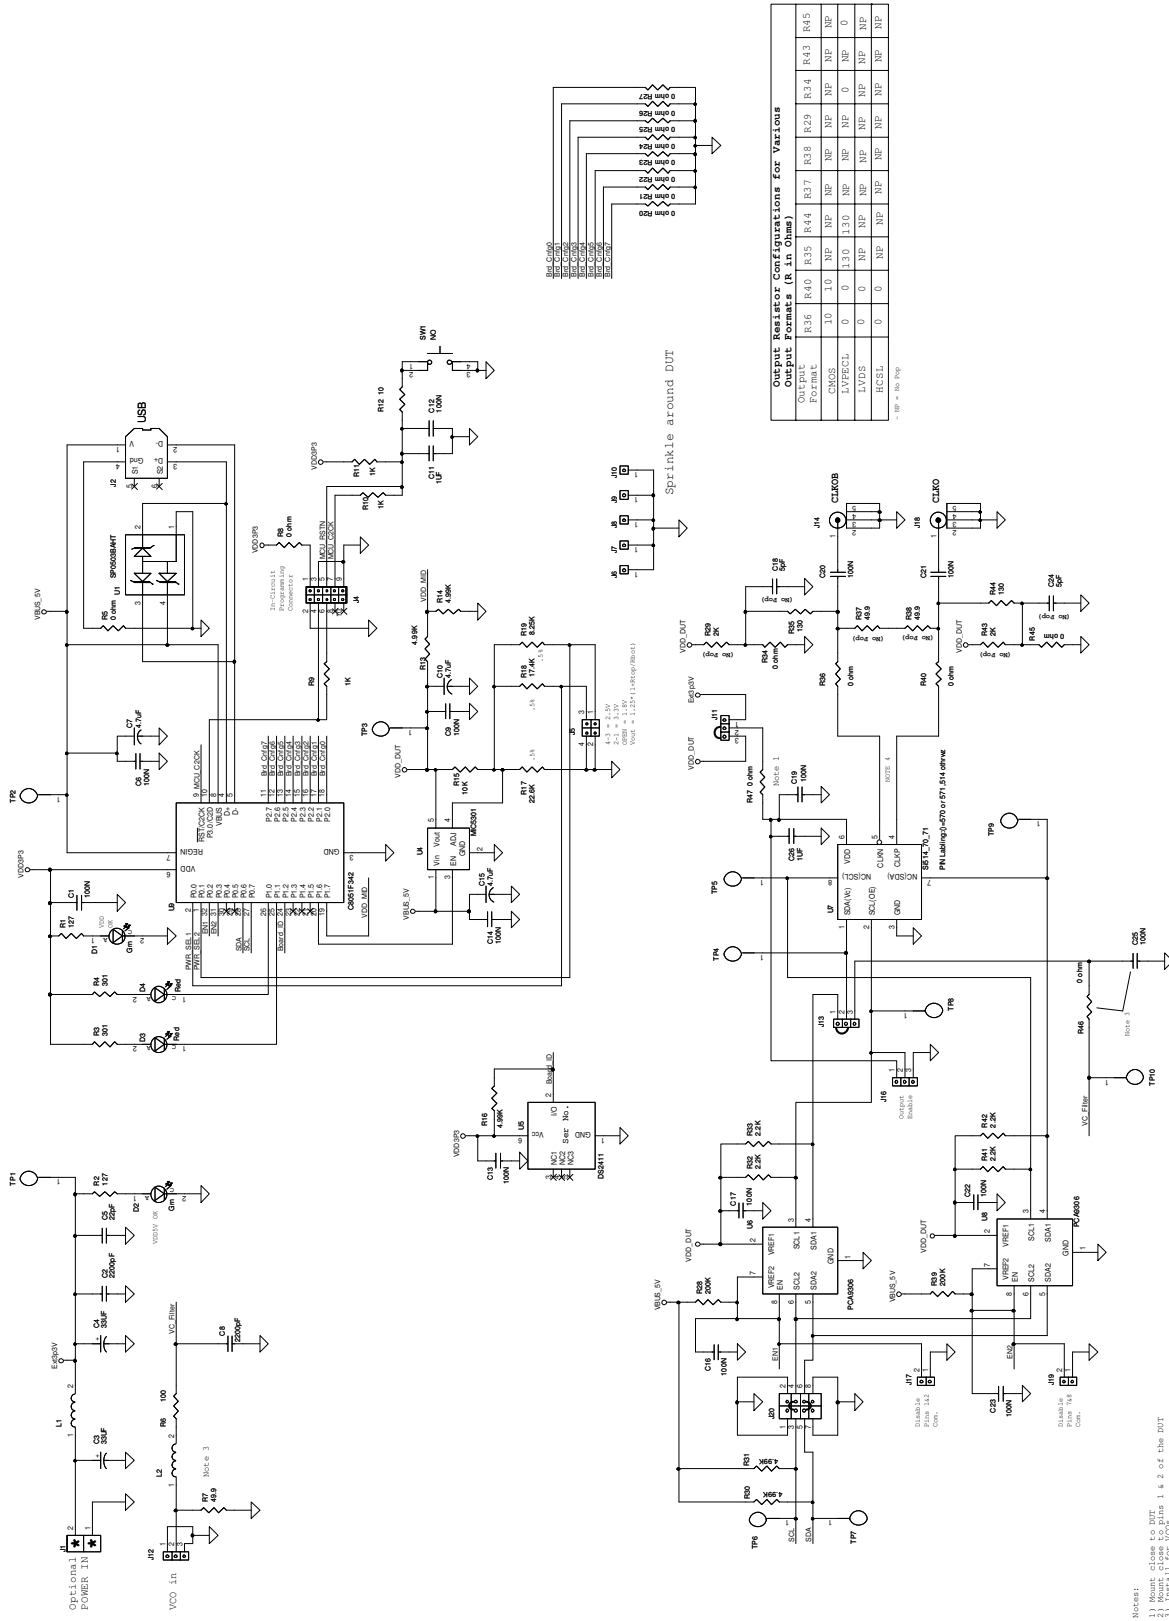

Figure 4. Si5xx-PROG-EVB (Universal I²C X0VX0)
- Updated Figure 4 on page 10 (schematic).